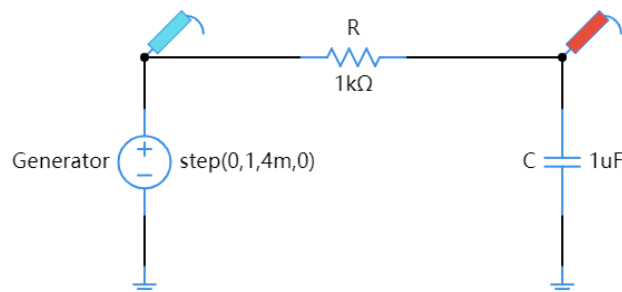

Fig.4 Circuit configuration for the first-order RC simulation with voltage source
1. Build a circuit as shown in Fig. 4.
4. Now, you can run the simulation by clicking the icon “TRAN”. In the “TRAN” solver, two “Voltage probes” should be put at the two ends of the resistor, as shown in Fig.4. You should find a suitable stop time (for example 0.02s) to show your simulated traces.